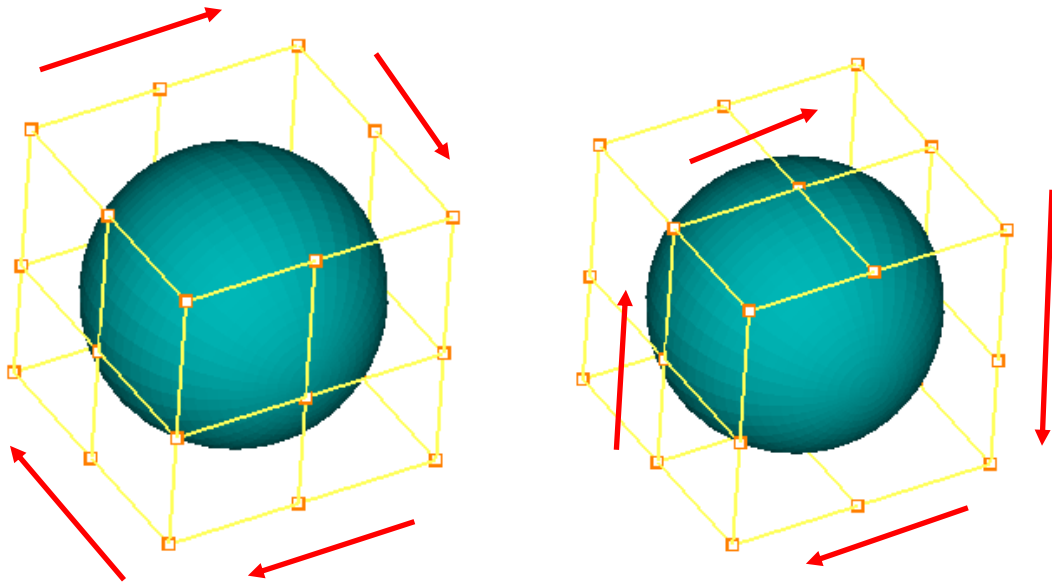

Figure 4.114: Topologies where nesting can be applied
4. Nesting can be performed along 2-D sheet only and it is applied in 1D as seen in figure 4.114.